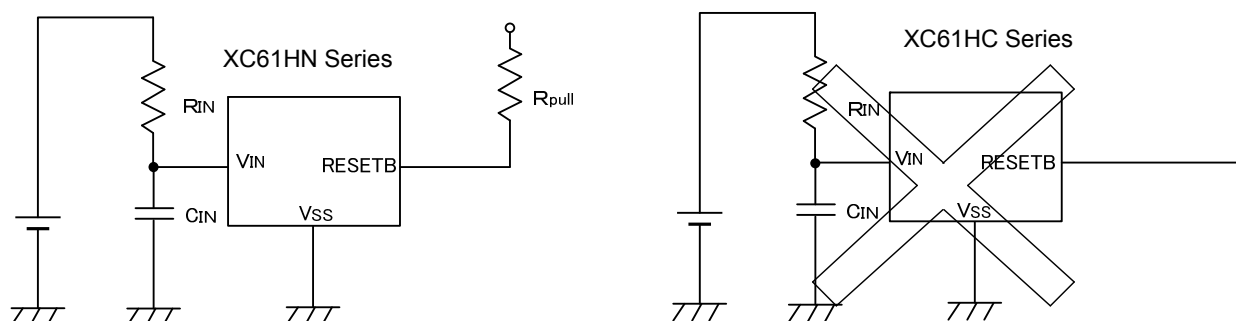

Figure 1 Use of input resistor  $R_{IN}$
2. When a resistor is connected between the  $V_{IN}$  pin and the input with CMOS output configurations, irregular oscillation may occur as a result of voltage drops at  $R_{IN}$  if load current ( $I_{OUT}$ ) exists. It is therefore recommend that no resistor be added. (refer to Figure 1 below)
3. When a resistor is connected between the  $V_{IN}$  pin and the input with CMOS output configurations, irrespective of N-ch output configurations, oscillation may occur as a result of shoot-through current at the time of voltage release even if load current ( $I_{OUT}$ ) does not exist. (refer to Figure 1 below)
Further, please ensure that  $R_{IN}$  is less than 10k and that  $C_{IN}$  is more than 0.1  $\mu$ F (Figure 1). In such cases, detect and release voltages will rise due to voltage drops at  $R_{IN}$  brought about by the IC's supply current.